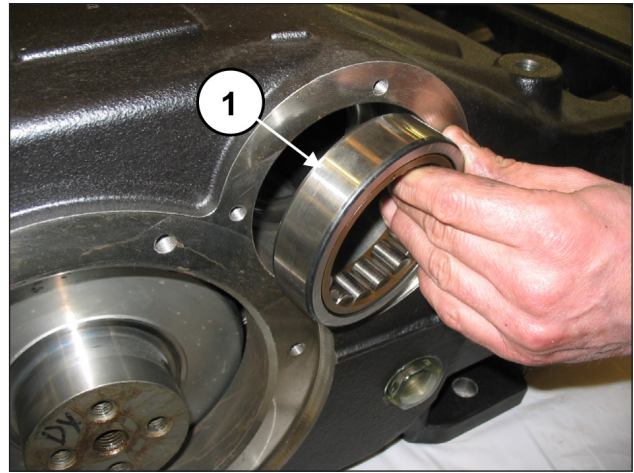
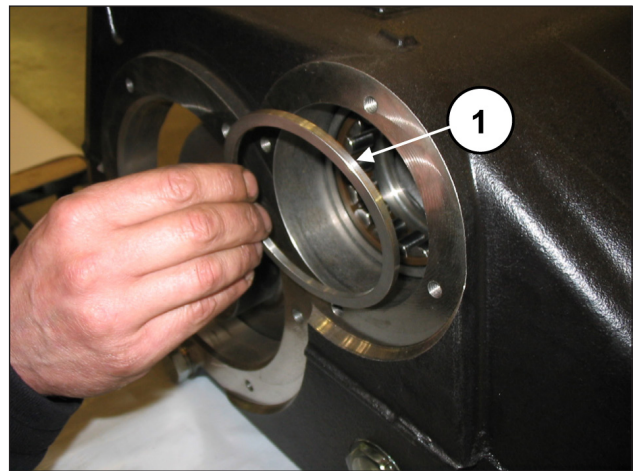
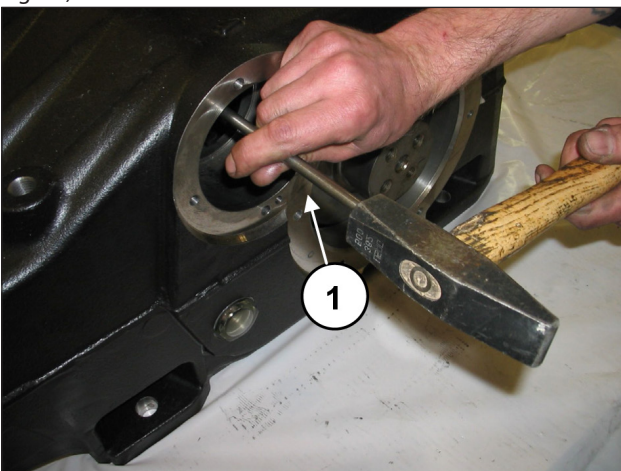
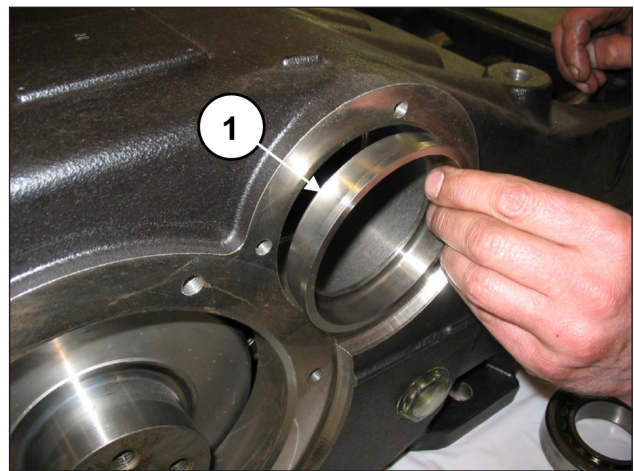

Fig. 35
Fig. 36
Fig. 34
Fig. 37
Using a sufficiently long bar (pos. ①, Fig. 34) and an extractor hammer, take the bearing rings out of the pump casing (pos. ①, Fig. 35), along with the external bearing spacer (pos. ①, Fig. 36) and the bearing lubrication bush (pos. ①, Fig. 37).